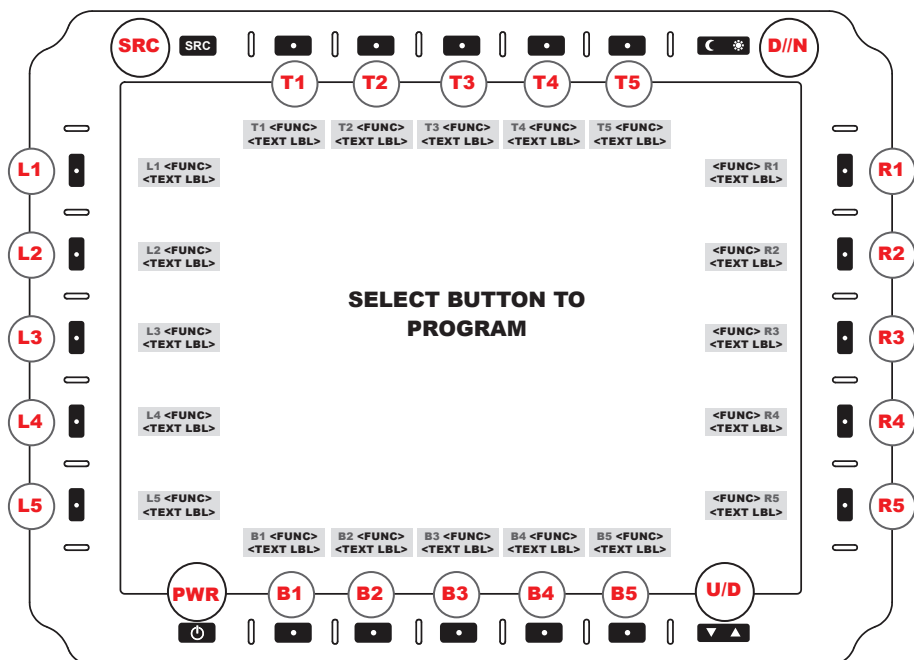

FIGURE 16
- VIDEO SOURCES: All ENABLED; DVI (1 and 2), Digital, Analog, and Composites (4)
**PROGRAM BTN (L2).** Initiates PROGRAMMABLE BUTTON MENU (Figure 16).
**BACK (R5).** Returns to SELECT BUTTON MENU, (Figure 16).